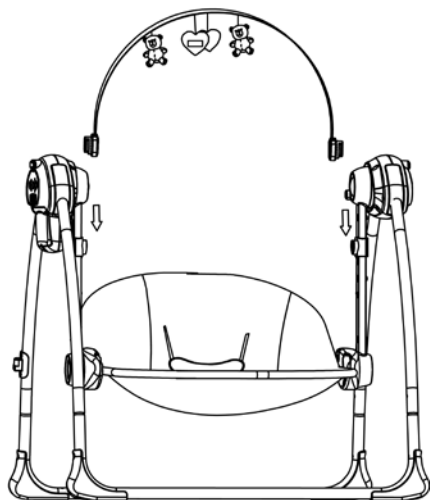

fig.5
5. Insert each end of the toy bar to the frame slot as indicate fig.5 arrow.